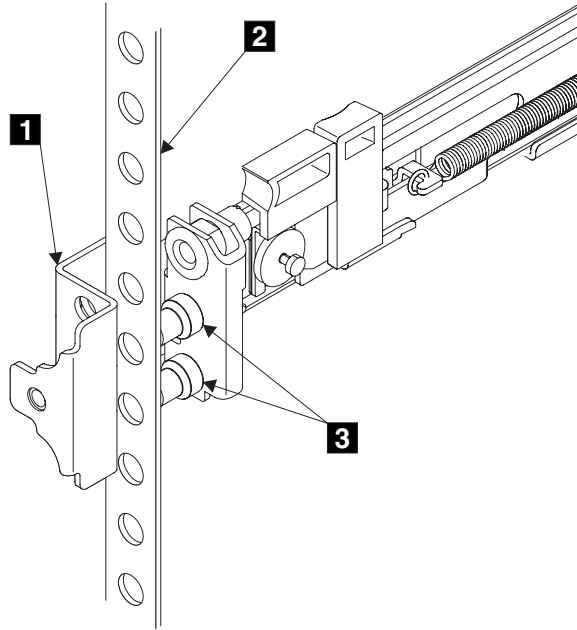

Figure 66. Installing the front end of the rail
6. Place the front end of the left rail in the rack cabinet. Align the top of the front bracket **1** (Figure 66 on page 283) with the required EIA marking that is on the rack.